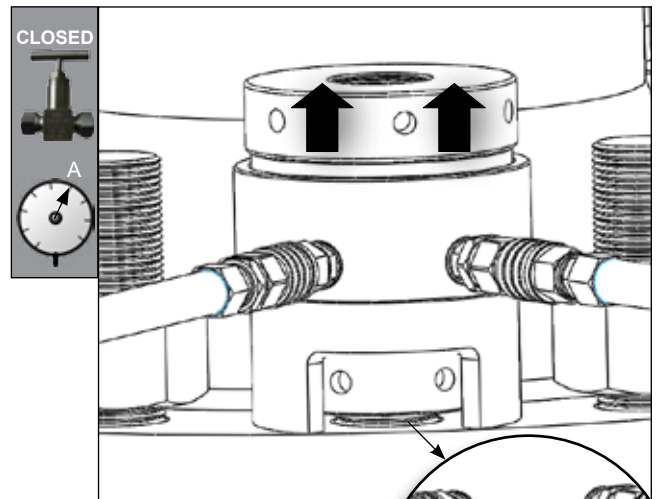

Fig 7.1
6. Once the pressure is holding steady, continue to pressurise the system up to the target calculated working pressure. (Fig 7.1) Continually monitor for piston overstroke, should any piston overstroke indicator become visible immediately stop the pump to hold the pressure, go to step 8 then 9 then 9b. Then recommence the tensioning procedure from step 5.